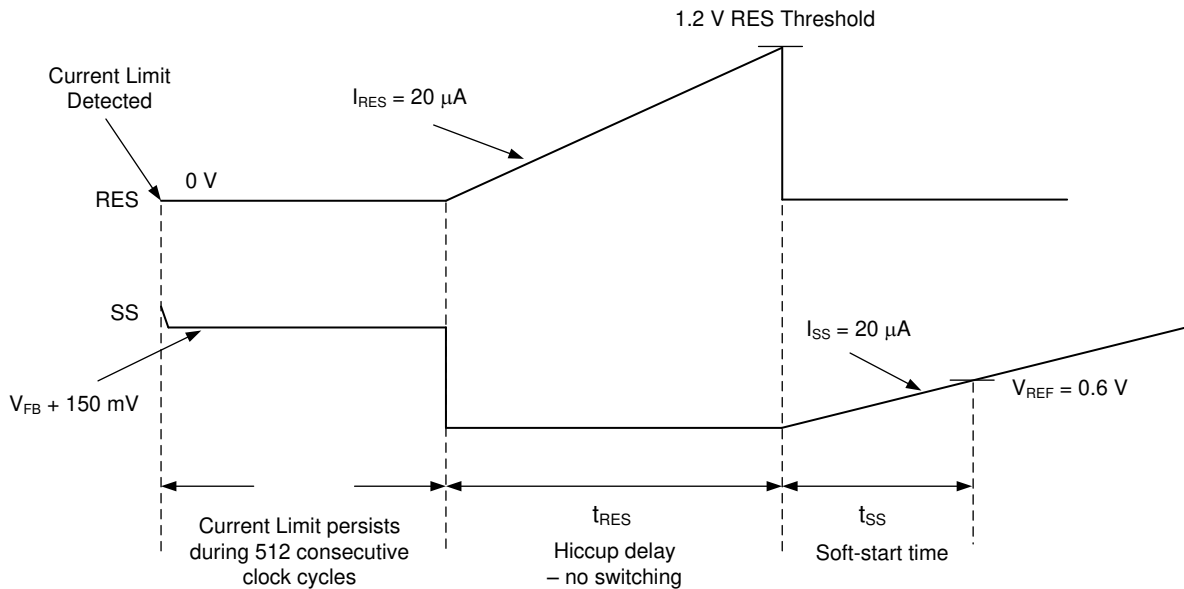

Figure 8-6. Hiccup Mode Timing Diagram
The LM5143-Q1 includes an optional hiccup mode protection function that is enabled when a capacitor is connected to the RES pin. In normal operation, the RES capacitor is discharged to ground. If 512 cycles of cycle-by-cycle current limiting occurs, SS is pulled low and the HO and LO outputs are disabled (see Figure 8-6). A 20- μA current source begins to charge the RES capacitor. When the RES voltage increases to 1.2 V, RES is pulled low and the SS capacitor begins to charge. The 512-cycle hiccup counter is reset if four consecutive switching cycles occur without exceeding the current limit threshold. Separate hiccup counters are provided for each channel, but the RES pin is shared by both channels. One channel can be in hiccup protection while the other operates normally. In the event that both channels are in an overcurrent condition triggering hiccup
- t_{RES} is the specified hiccup delay as shown in Figure 8-6